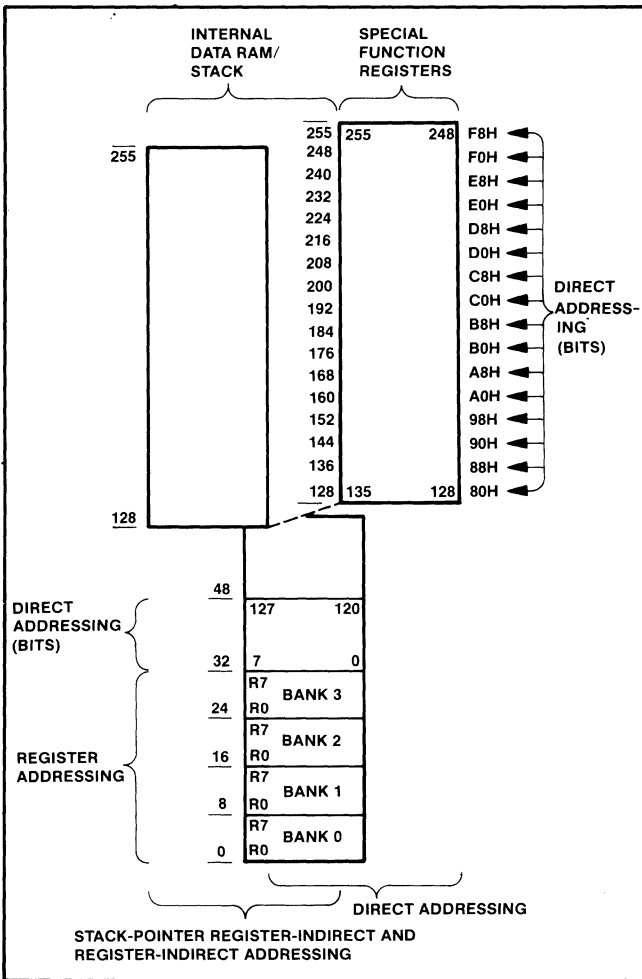

Figure 2.16. Addressing Operands In Internal Data Memory
(R7-R0) of the selected Register Bank (RB). One of the four 8-Register Banks is selected by a two-bit field in the PSW. The registers may also be accessed through Direct Addressing and Register-Indirect Addressing since the four Register Banks are mapped into the lowest 32 bytes of Internal Data RAM as shown in Figure 2.16. Other Internal Data Memory locations that are addressed as registers are A, B, C, AB and DPTR.